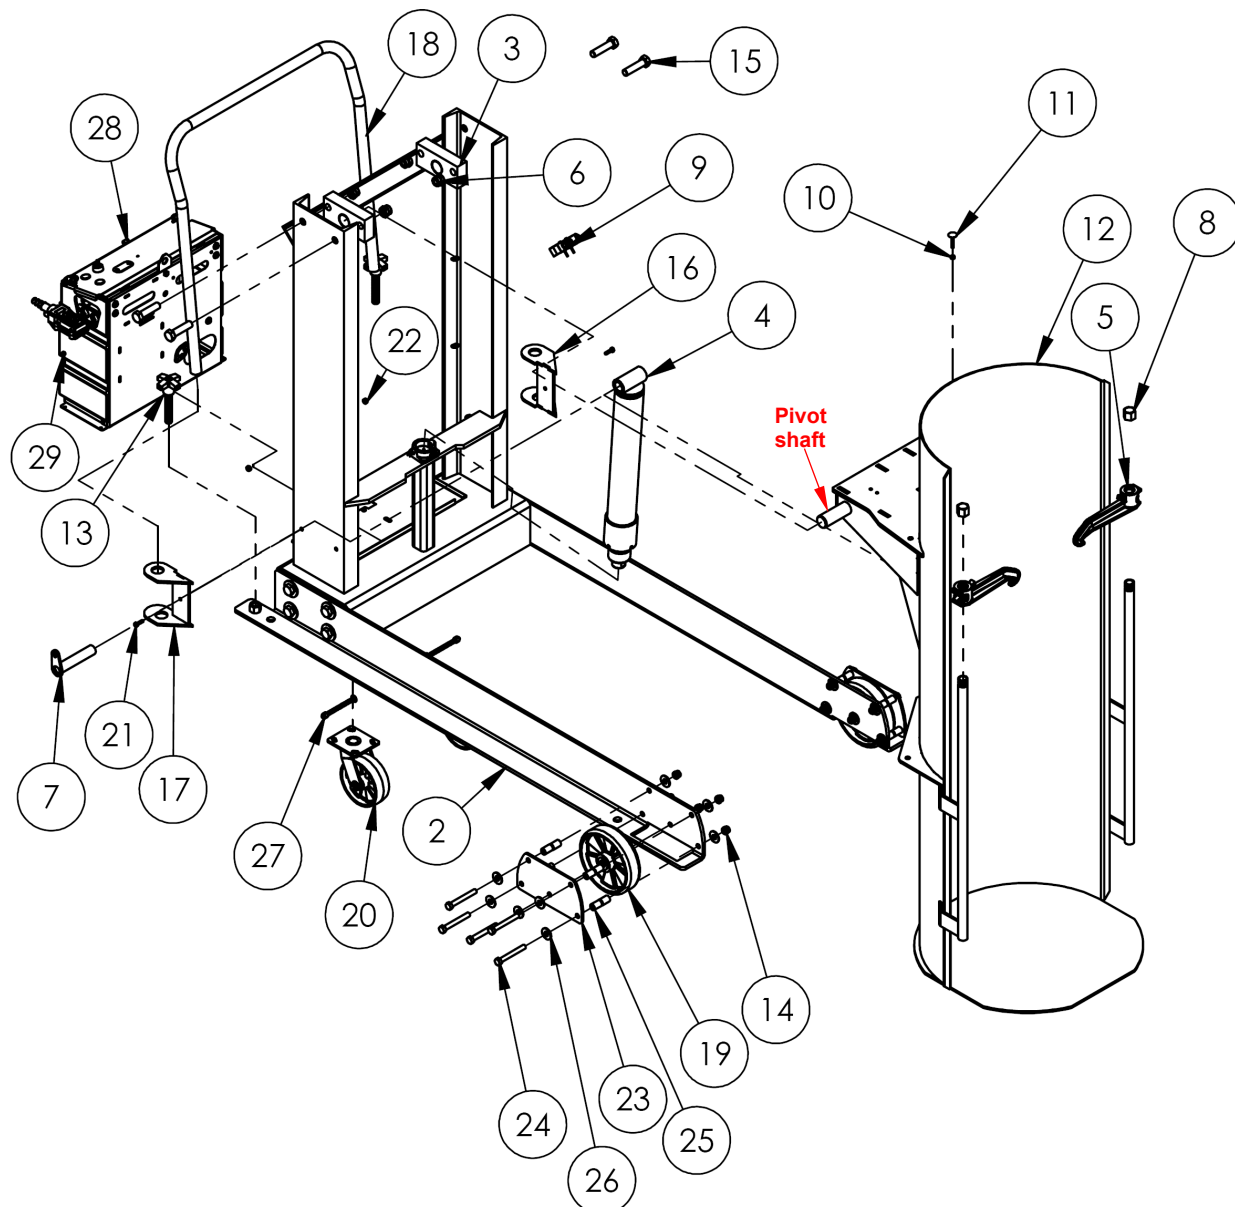

**FIG. 5:** HDD-36-P series portable dumpers exploded view and bill of materials
- DO NOT load or operate the chute of a portable dumper unless both floor locks (part no. 08-025-008 in figures 5, 6, 7, and 8 on pages 7, 8, 9, and 10) solidly contact the floor. Floor locks are located on either side of the handle. Wind the locks through the threaded receivers in the frame until they solidly contact the ground.
A floor lock is provided on both sides of the handle. In Figures 5, 6, 7, and 8 on pages 7, 8, 9, and 10, floor locks are identified as part no. 08-025-008. Once the dumper is in the necessary position and before loading the chute with a drum, wind the floor locks through the threaded receivers (welded to the frame) until they solidly contact the floor. Do not turn the locks so far that the casters are noticeably lifted off of the floor because the dumper might become unstable if 1 or more casters are lifted off of the floor. It is only necessary for the locks to press against the floor. Try to push the dumper to confirm that the locks are engaged. The dumper should resist movement although all 4 casters remain in contact with the floor.